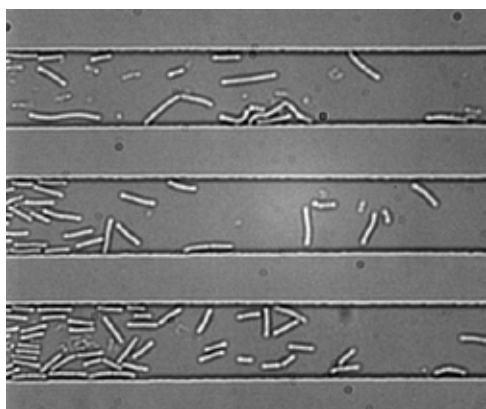

Figure 3 Trapped *E. coli*
7. Turn on "cell load" switch to transport cells into the trapping region. The suggested loading protocol is at 6-8 PSI for 10 seconds. The loading profile will depend on cell density, cell size, and desired trapping density. When loaded, the trapping region will look similar to Figure 3.